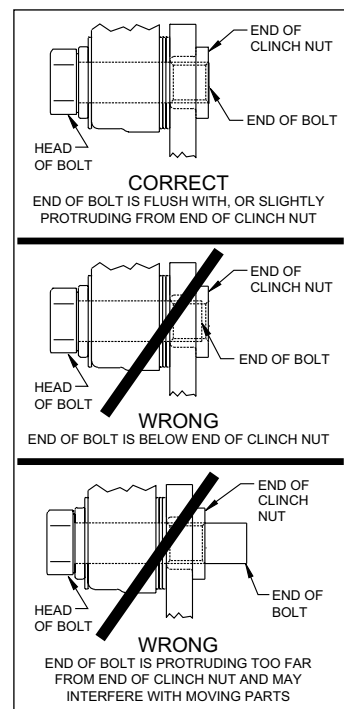

Figure 4. Clinch Nut Engagement Diagram
CAUTION: All mounting bolts must fully engage clinch nuts. Be sure to check that all bolts are either flush or protruding through flanged side of clinch nut after shimming, Figure 4.
(13) onto the caliper mounting bracket (6) using bolts (14) and washers (15), as shown in Figure 1. Initially place two .035" thick shims (16) on each bolt between the caliper and the bracket, Photo 9. Temporarily tighten the mounting bolts and view the rotor (20) through the top opening of the caliper. The rotor should be centered in the caliper, Photo 10. If not, adjust by adding or subtracting shims (16) between the bracket (6) and the caliper (13). Always use the same amount of shims on each of the two mounting bolts. **NOTE: The end of each bolt must be flush with or slightly protruding from the head of the clinch nut, as shown in Figure 4.** If necessary place spare shims (16) between washer (15) and caliper (13) mounting ear to achieve the proper clinch nut engagement. Once the caliper alignment and clinch nut engagement are correct, remove the bolts (14) one at a time, apply red *Loctite*® 271 to bolt threads, and torque to value shown in Figure 1.